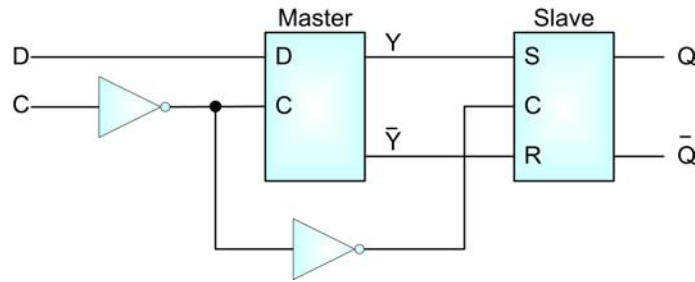

Figure 5: D-Type Positive-Edge-Triggered FF
- The logic diagram of a positive edge triggered D-type flip-flop is shown in the Figure 5.